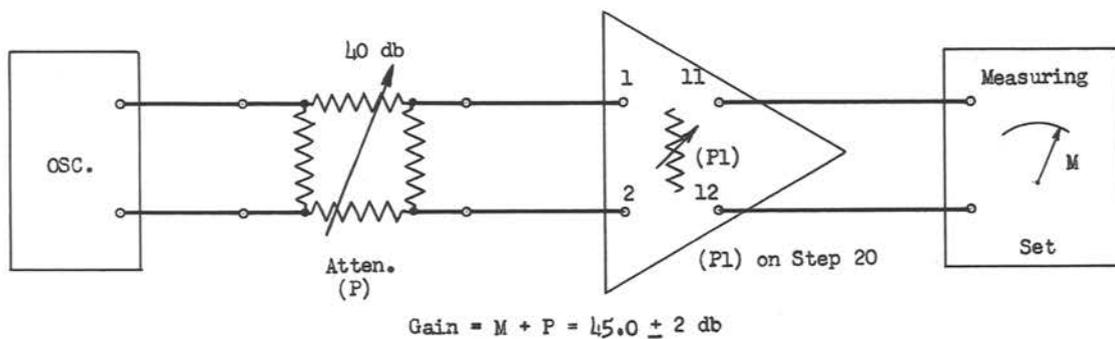

Fig. 3 - 106A Amplifier Gain Testing Arrangement - 600-ohm Input and 600-ohm Output - Maximum Gain
(1) Readjust attenuator P for 40 db loss and potentiometer P1 in the amplifier on step 20 as indicated in Fig. 3.